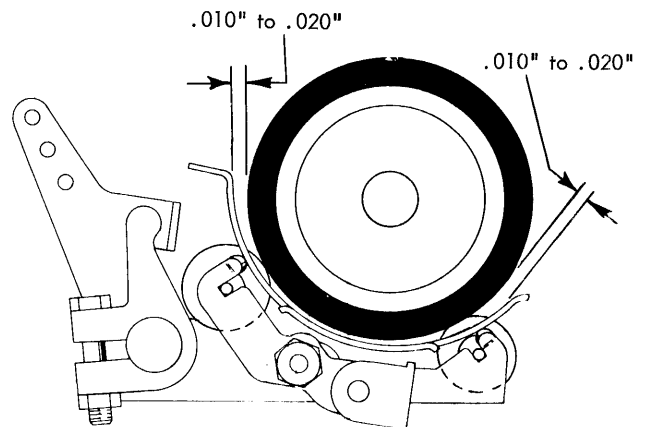

FIGURE 264. Deflector Adjustment
8. Deflector - Position the deflector by forming the deflector supporting tabs on the front and rear feed roll arms so that a clearance of .010" to .020" exists between the front and rear of the deflector and the platen (Fig. 264). Three tab cards inserted between the platen and the deflector (at the front and rear) should provide a slight drag. No drag should be felt when one tab card is inserted.
- b. The status switch should transfer and re-transfer during its travel in the slot of the paper switch roller (Fig. 264-B).